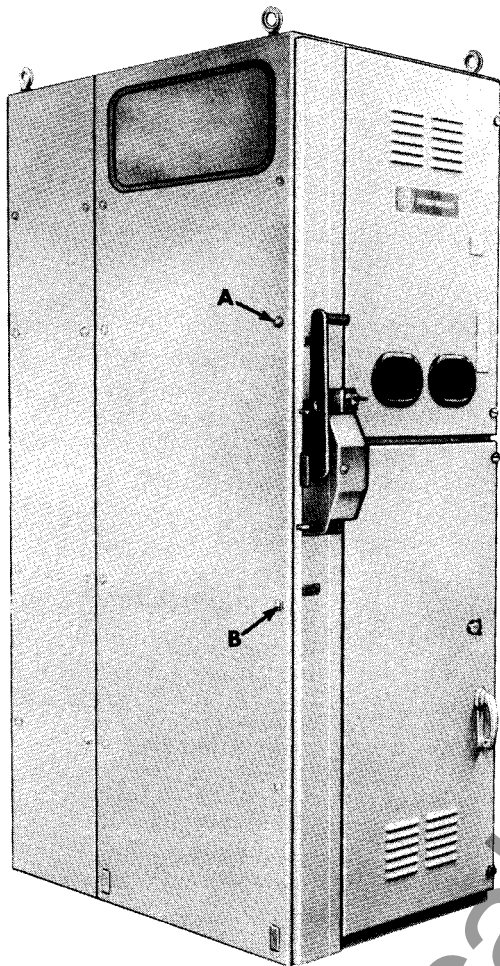

Fig. 4
- c. Bolt shipping splits together with bolts supplied, Fig. 4. Some bolts (A) & (B) may have to be removed before putting shipping splits together.